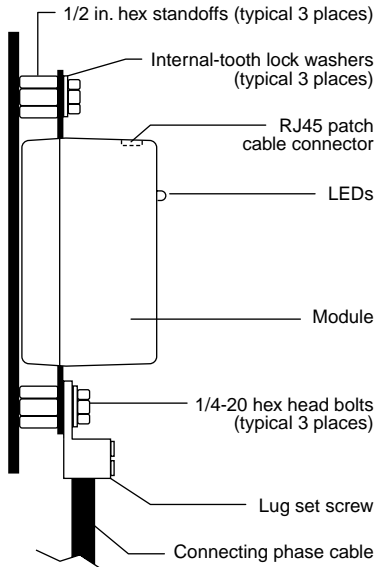

Figure 3: Module, Side View
3. Use a suitable tool to prevent each 1/2 in. hex standoff from turning (see Figure 3) and remove and discard the three 1/4-20 hex head bolts and the three corresponding internal tooth lock washers of the module. It is not necessary to remove the connecting phase cables from the lugs.
5. Install the new module, using the new hardware kit supplied (see Figure 3). Torque each 1/4-20 hex head bolt to 70 lb-in (8 N•m).